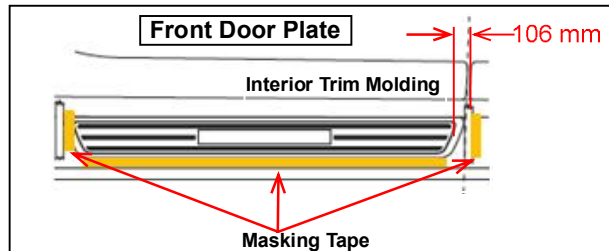

FIGURE 2
2. Prior to removing backing liner, position parts in proper location (Figure 2) and use masking tape to mark location.